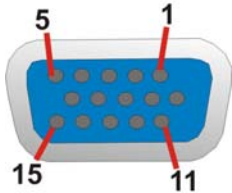

Figure 4-24: VGA Connector
- CN Pinouts:** See Figure 4-24 and Table 4-26